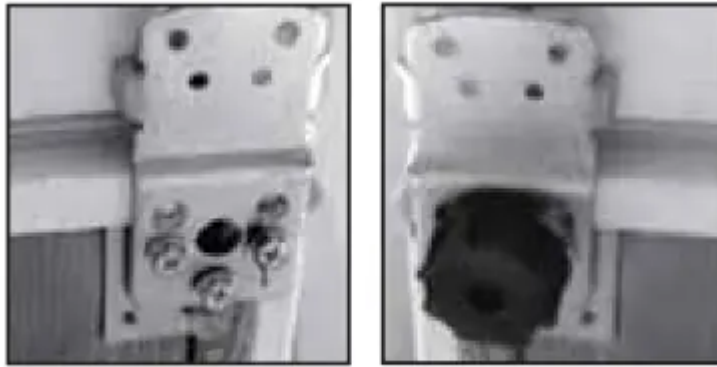

Fig. 7
1. Remove the lower hinge pin from the lower hinge by turning counter clockwise. Move the pin to the opposite hole and tighten. (see Fig. 6 and Fig. 7)
4. Loosen the screws holding the bottom hinge and remove it. (see Fig. 7)